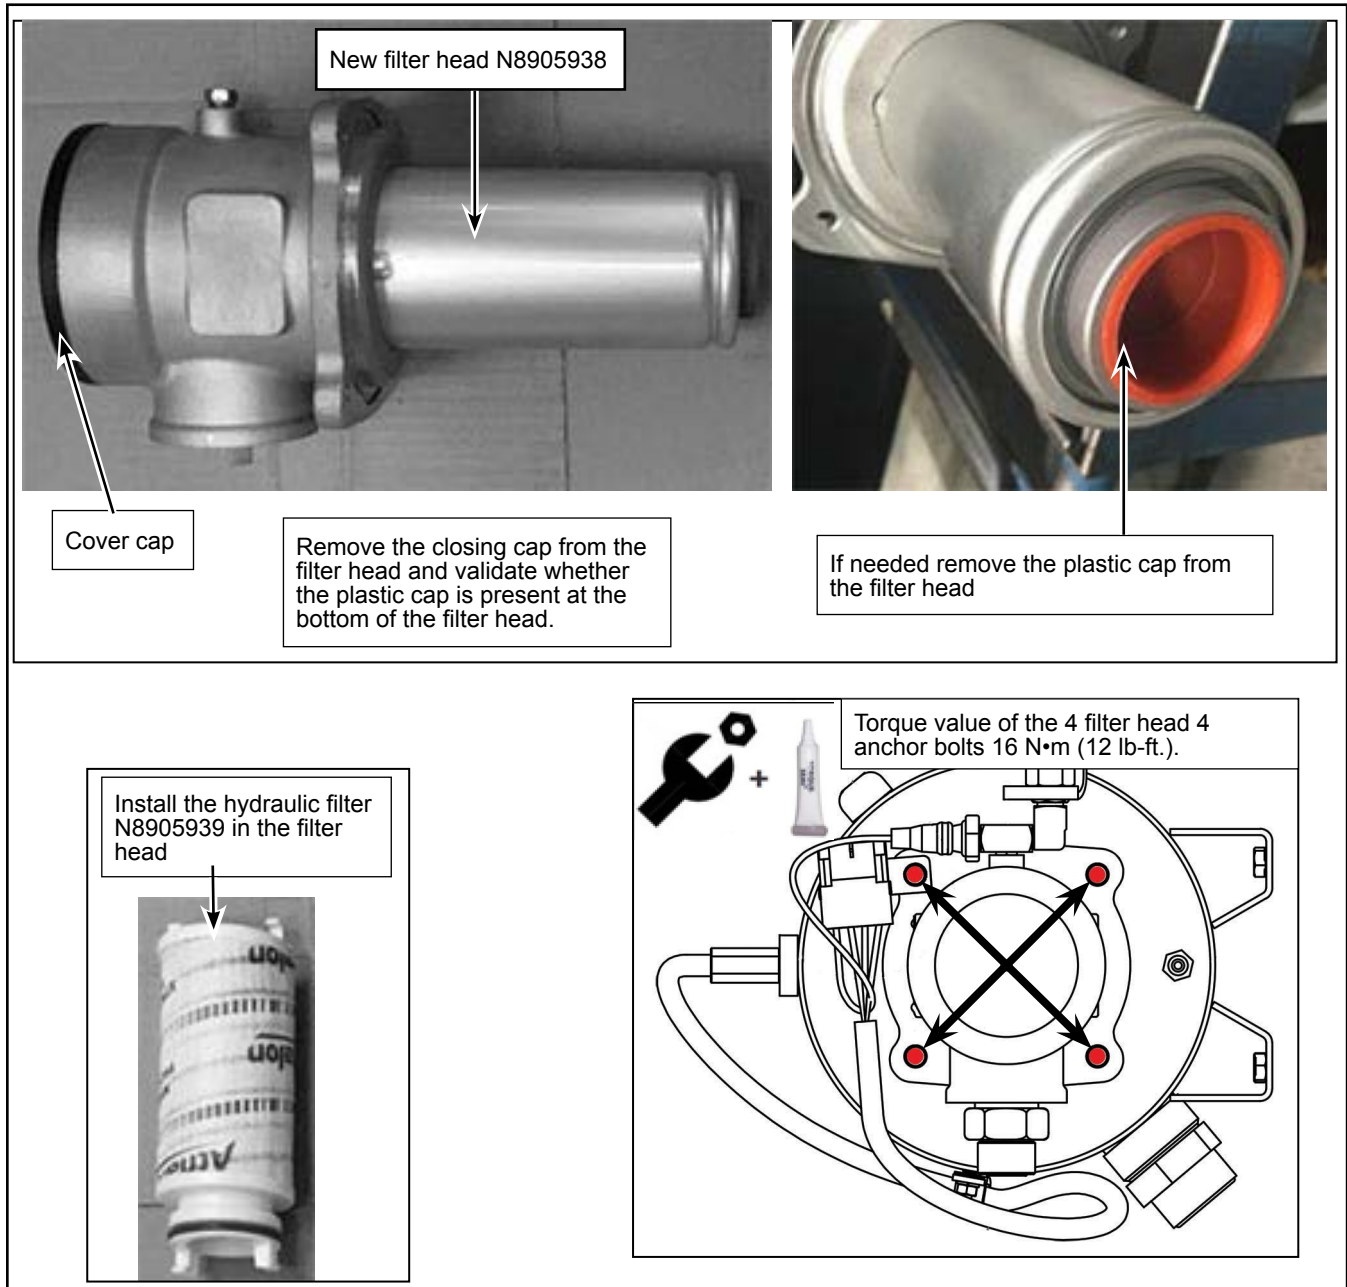

Figure 3 - Validation of the Filter Head
- 1.9. Open the filter head cover cap on the new N93676 hydraulic tank. See Figure 3.
- 1.11. Install the hydraulic filter N8905939 in the filter head and install the cover cap. See Figure 3.